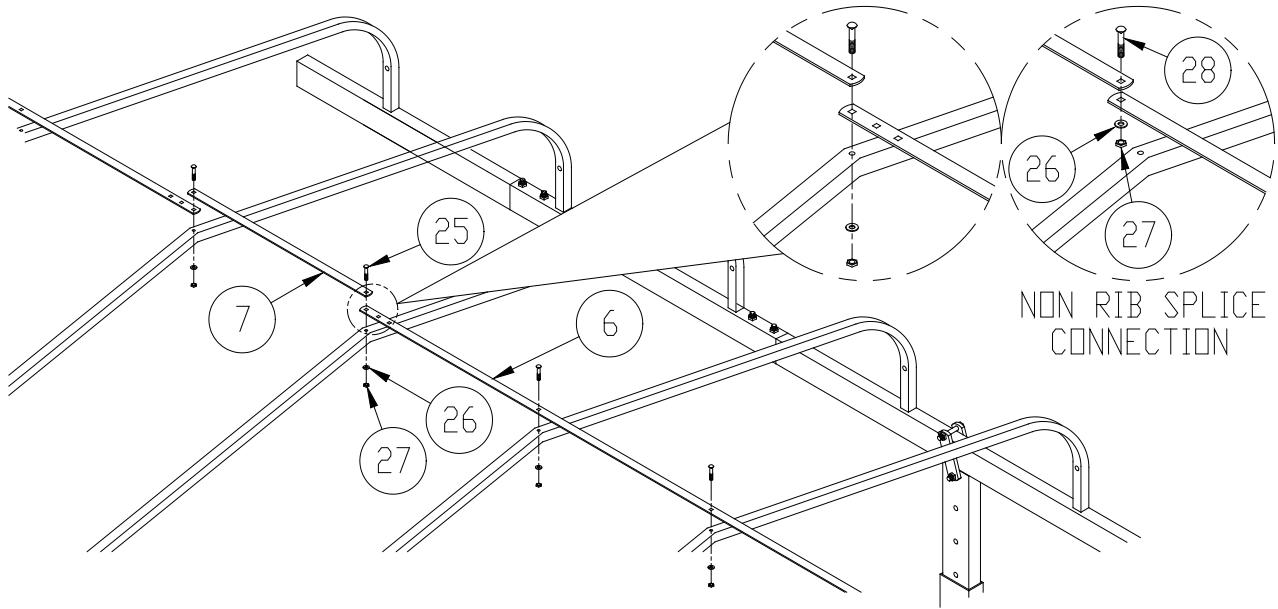

Figure 2-6
11. Refer to **Figure 2-6**. Assemble (2) end and (1) mid center band on top of the ribs with hardware shown. This will provide a uniform lay of the fabric. At center band, splice connections that do not meet at a rib. Use shorter hardware shown.